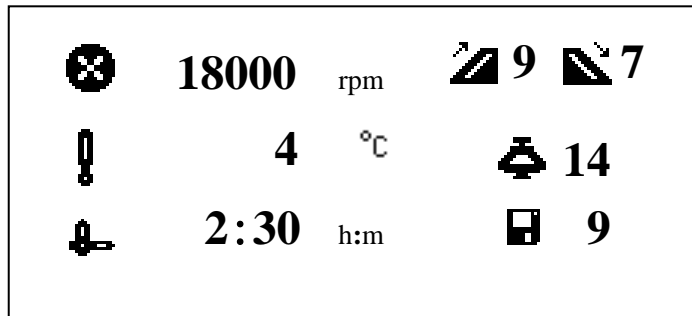

Figure 7-2 Preparation mode interface
- This centrifuge will move to a preparing interface after self-checking, and display the running parameters of the last time. For example, the Figure 7-2 shows that the speed was set to be 18000rpm, the temperature was 4°C, the running time was 2 hours and 30 minutes, the acceleration rate was 9, the deceleration rate was 7, the rotor ID was 14, and the program group number was 9.